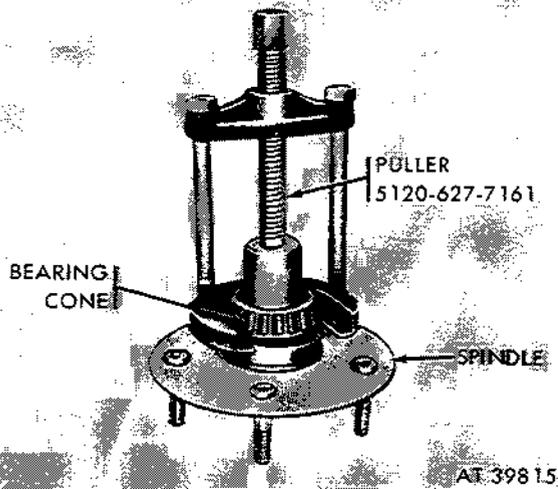

Figure 2-319. Remove outer bearing using puller 5120-627-7161.
- (3) Remove outer bearing cone from spindle using puller 5120-627-7161 (fig. 2-319).